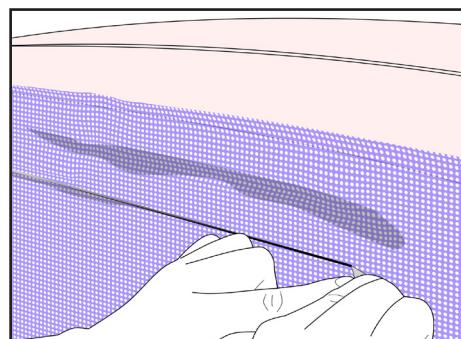

Figure 29
- › Cut the micro-perforated film flush with the top of the window. (FIG. 29)